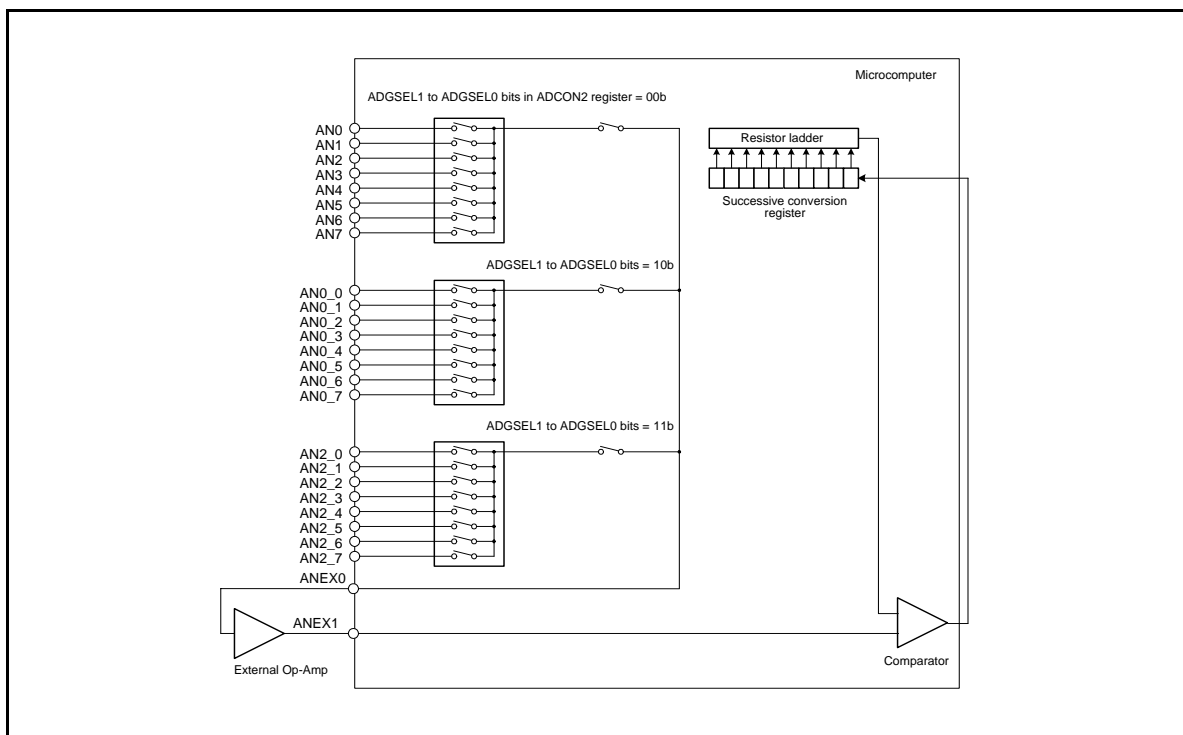

Figure 18.10 External Op-Amp Connection
Multiple analog inputs can be amplified using a single external op-amp via the ANEX0 and ANEX1 pins. Set the OPA1 to OPA0 bits in the ADCON1 register to “11b” (external op-amp connection mode). The inputs from ANi (i = 0 to 7) (1) are output from the ANEX0 pin. Amplify this output with an external op-amp before sending it back to the ANEX1 pin. The A/D conversion result is stored in the corresponding ADi register. The A/D conversion speed depends on the response characteristics of the external op-amp. Figure 18.10 shows an example of How to Connect the Pins in External Op-Amp.